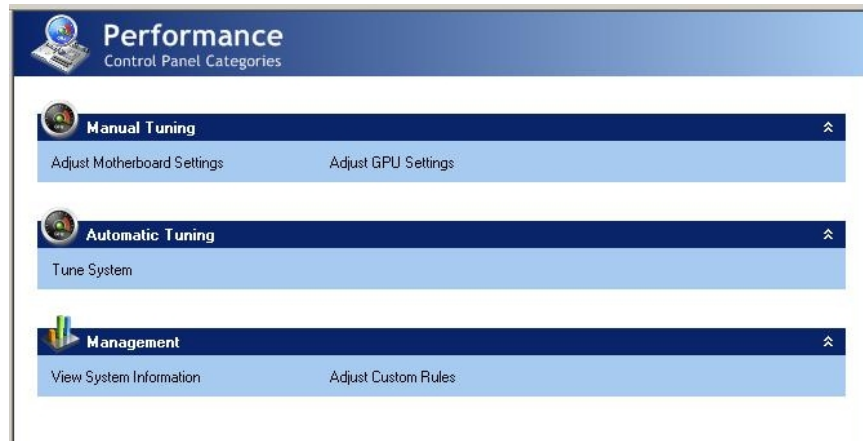

Figure 13. nTune 5.5 Performance Menu
2. Select the Performance icon and it brings you to the screen as shown in Figure 13.